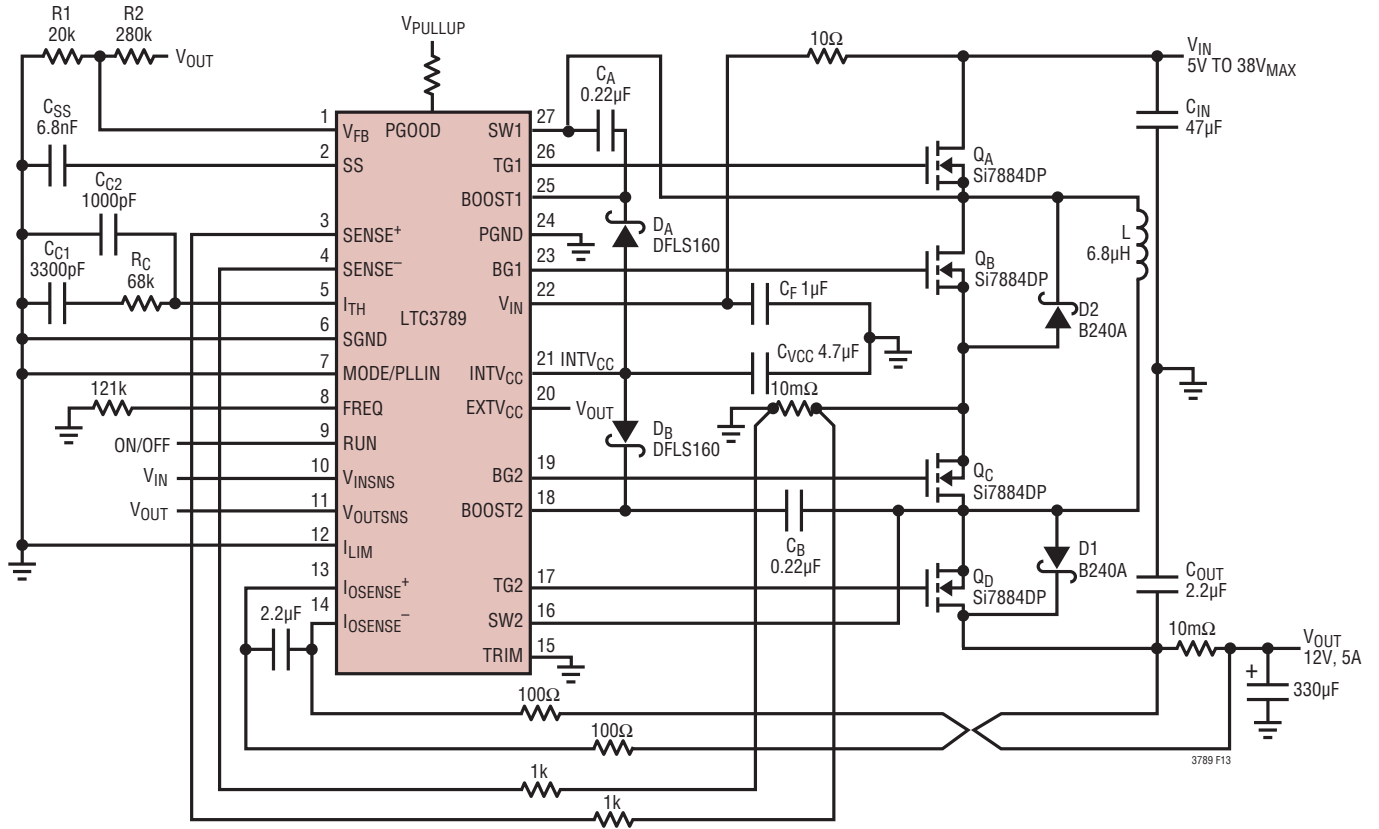

Figure 13. LTC3789 12V/5A, Buck-Boost Regulator
- Flood all unused areas on all layers with copper. Flooding with copper will reduce the temperature rise of power components. Connect the copper areas to any DC net ( $V_{IN}$  or GND). When laying out the printed circuit board, the following checklist should be used to ensure proper operation of the LTC3789. These items are also illustrated in Figure 13.